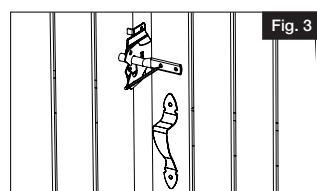

Fig. 3
- b. Mark screw location on post and upright (Fig. 3).